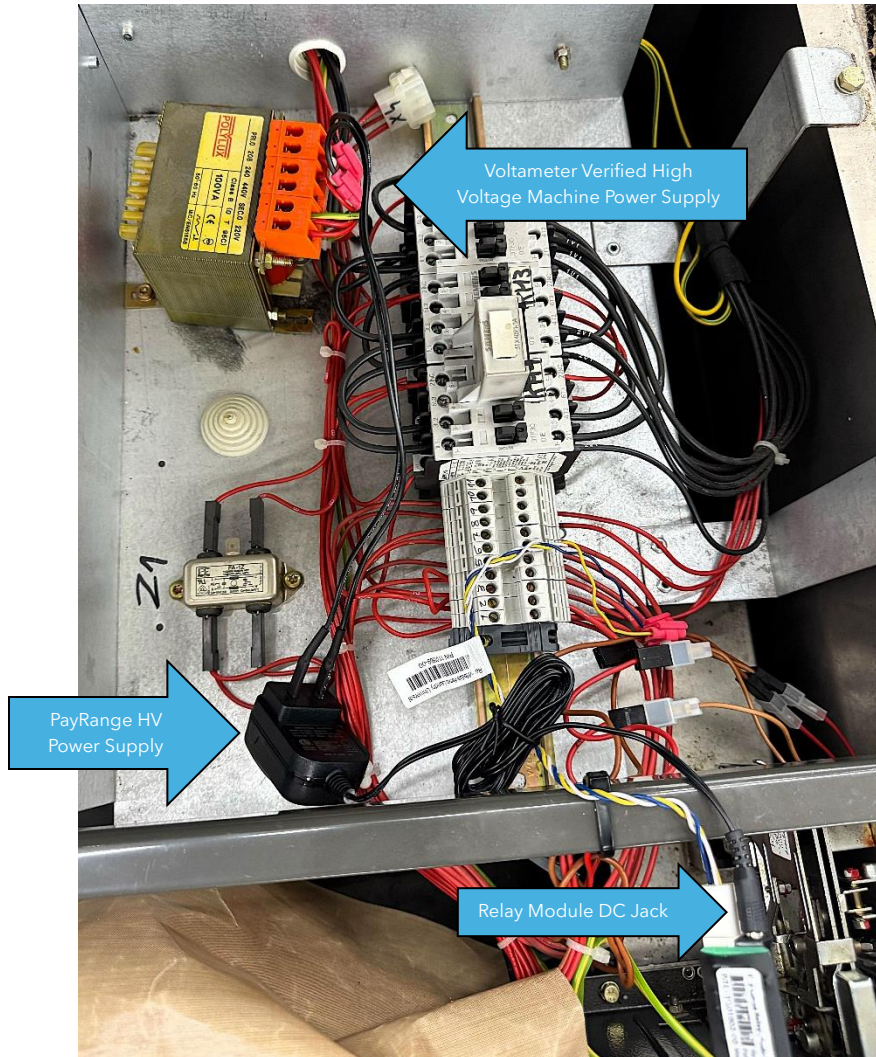

Figure 17
- Refer to **Figure 17** for an example of the high voltage power location. Please note that machine layouts may vary by model.